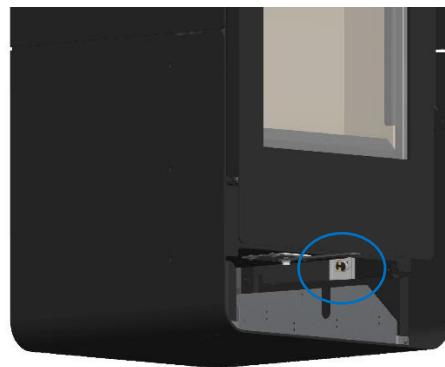

Figure 40 – Fixing the ventilation kit thermostat
- * Fix the ventilation kit thermostat (figure 40);